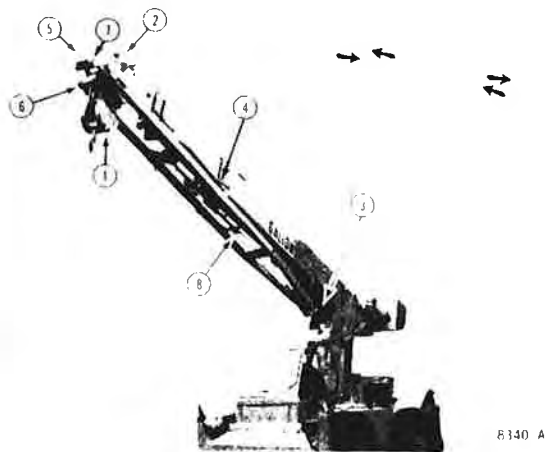

Figure 14
1. Position boom over side of crane, lower hook block (1, Figure 14) to ground, remove wedge, wire rope and reeve to single part line.
2. Spool wire rope over head block (2, Figure 14) fly jib sheave and attach at cable anchor behind overcenter check valve (3).
3. Remove hair pin from pendant cable anchors (4, Figure 14) at front mount. Allow pendant cable to hang free.
4. Reposition gantry (5, Figure 14) by removing pins and install into proper hole for working position.
5. Install pins into bifurcated ends of jib (6, Figure 14).
9. Attach pendants to gantry (7, Figure 14). Pin in place. Remove wire and attach jib stops (8) to gantry.